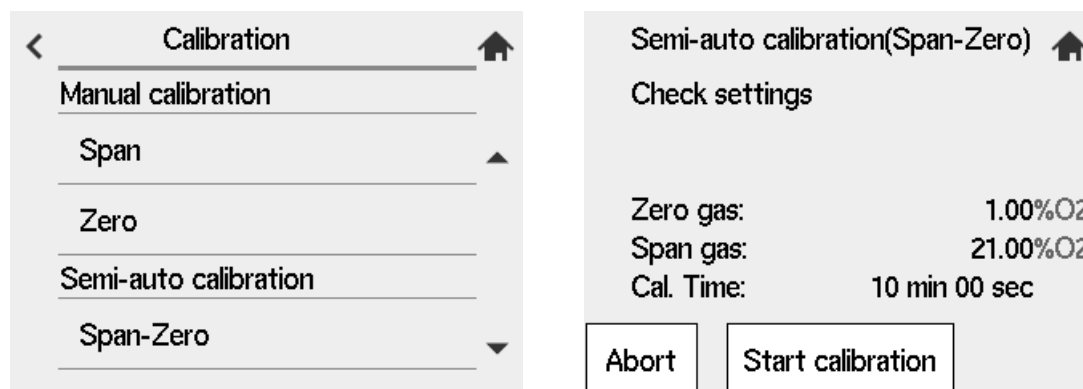

Figure 9.10 Semi-auto Calibration
- (1) Press the [Abort] key. If this key is pressed midway during calibration, the calibration will stop and the hold (output stabilization) time will be set up.
- (2) Press the [Abort] key once again to return to the screen as shown in Figure 9.10.